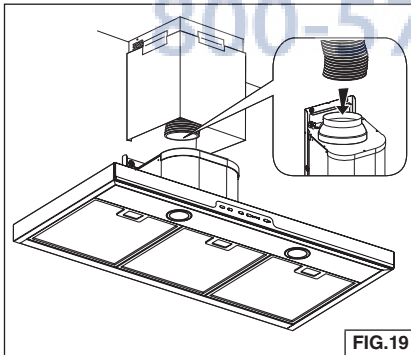

FIG.19
7. Stretch expandable duct, attach it to the 5"-to-6" adapter and tape duct joints. Fig. 19.